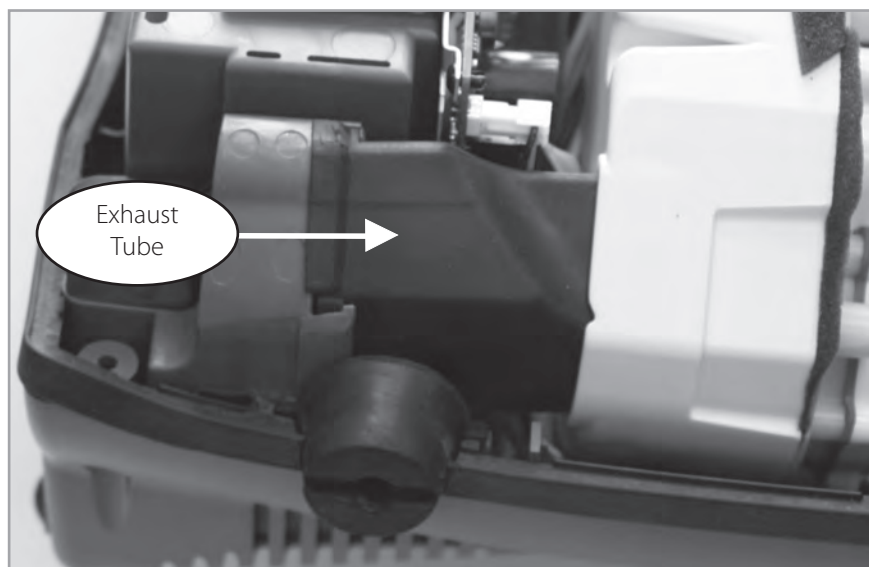

Figure 58: Exhaust Tube Removal.
5. Remove the Exhaust Tube shown in Figure 58.
11. Hold onto the Compressor Box and lift the Bottom Case in standing position. Insert the Exhaust Tube into the slot of the Exhaust Duct as shown on Figure 58 above. Ensure that it is secure without any gaps.
1.8 Position the New Power Manager PCB(PN: 5932-1-SEQ) 1" out of the case as shown in Fig 58. Gently push the Compressor Box away from the Power Manager pcb by 1/8". Connect the 2 wire harnesses (Ext Power & ATF harness) and the Control Board Ribbon Cable.